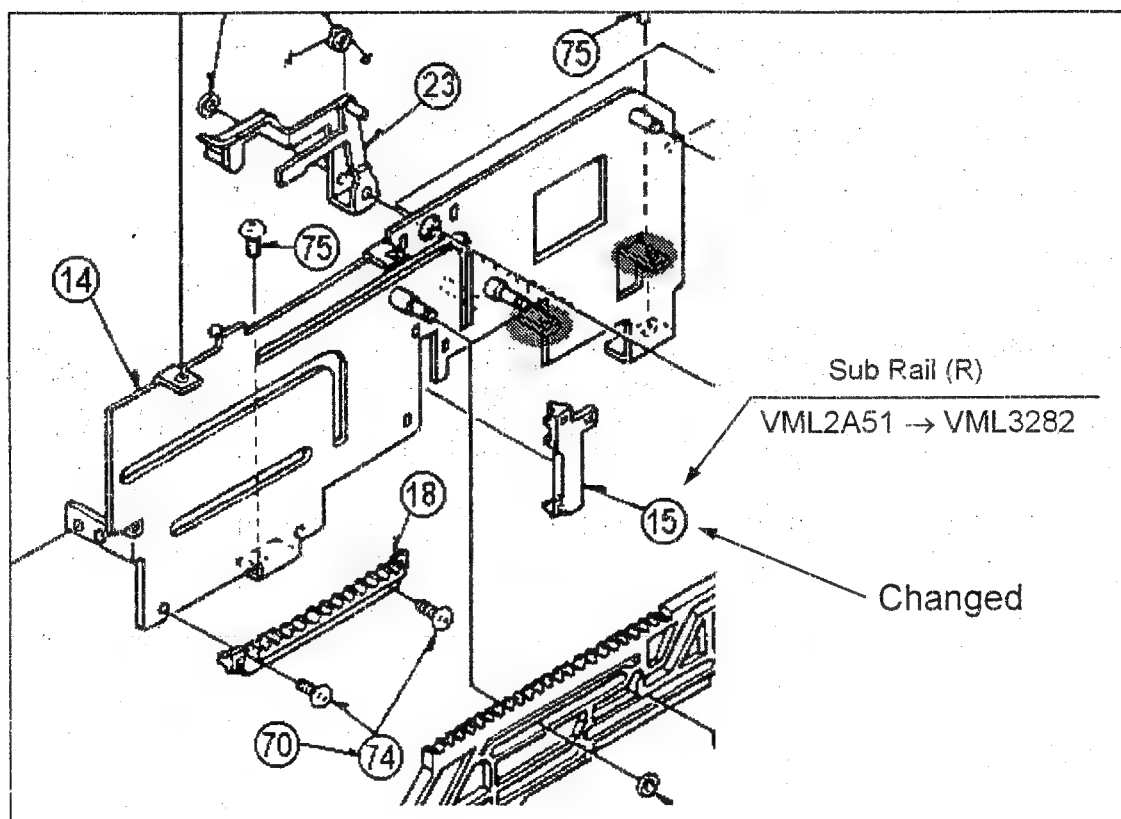

Fig. 1
Remedy : To improve the cassette insertion, the Sub Rail (R) and (L) are changed as shown in figures 1 and 2.